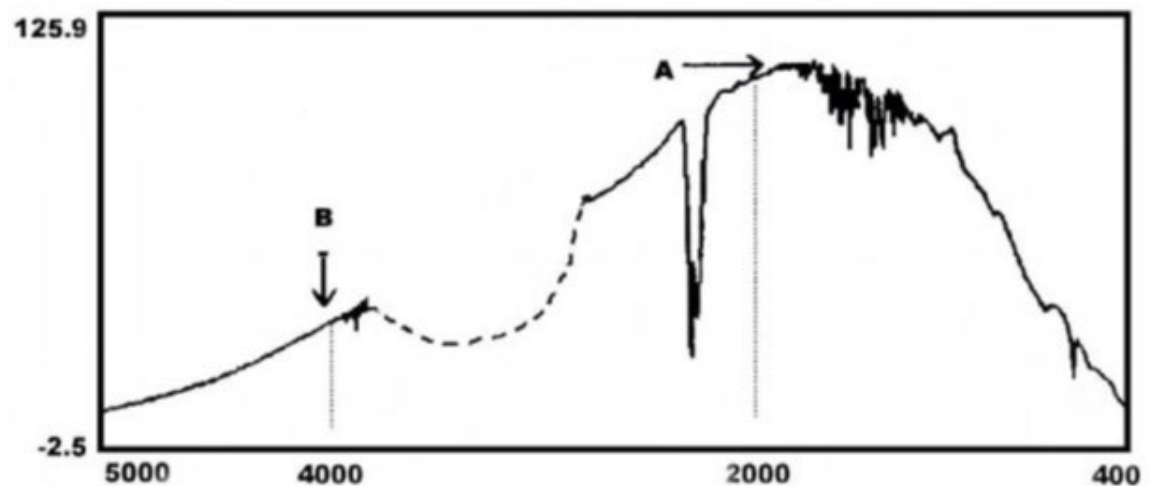

Figure 83. Abnormal Background Spectrum
4. The spectrum in Figure 83 has a dip in the region around 3000 to 3500cm⁻¹. This indicates that there is a chemical coating on the gas cell. It needs to be cleaned or replaced.